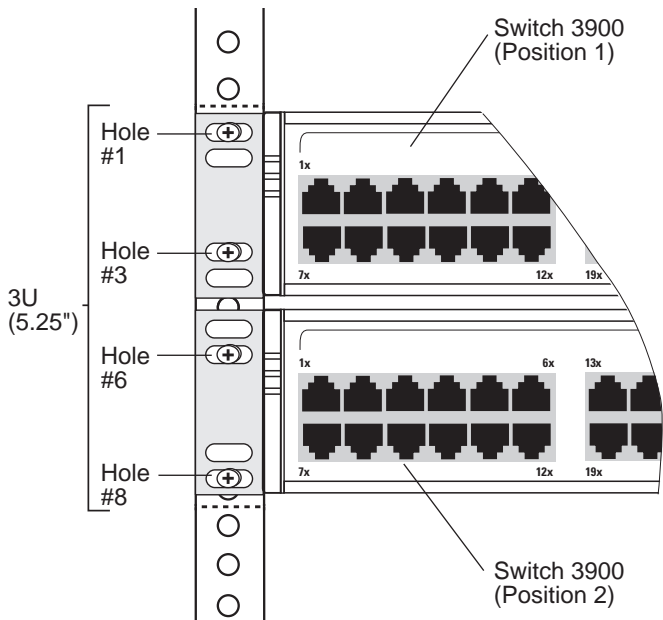

Figure 2-5 Aligning Bracket and Distribution Rack Holes
- 1 Carefully lift the system into place and align the appropriate holes in the mounting brackets with the designated holes in the distribution rack. See Figure 2-5.